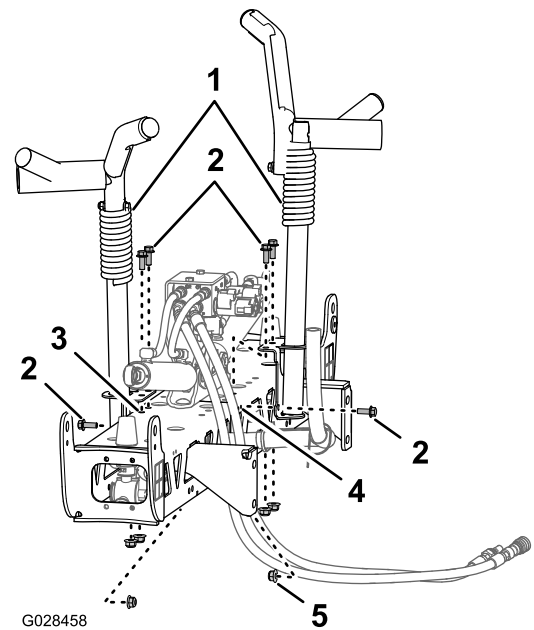
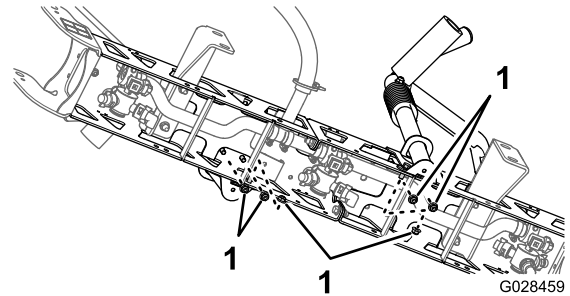

Figure 37
Figure 38
2. Align the boom transport cradles to the center boom section (Figure 37).
3. Assemble the cradles to the boom section (Figure 37 and Figure 38) with 6 bolts (3/8 x 1 inch) and 6 flanged locknuts (3/8 inch).